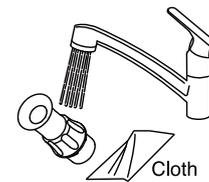
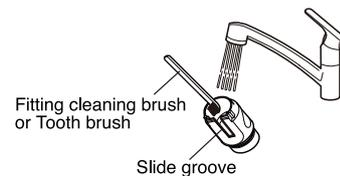
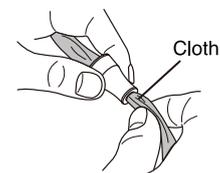

Fig.5-8 Surface cleaning
Fig.5-9 Cleaning of hole and sliding part
Fig.5-10 Cleaning the area (brush is unable to reach)
- A. Wipe off the surface contamination by a cloth while rinsing the surface by running clean warm at  $40\pm 5$  degrees. **(Fig.5-8)** Scrub the intubation or hole, slide groove and filter by a cleaning brush or by a tooth brush with running clean warm water at  $40\pm$  degrees. **(Fig.5-9)** Wipe off by a cloth for the area which brush is unable to reach. **(Fig.5-10)**